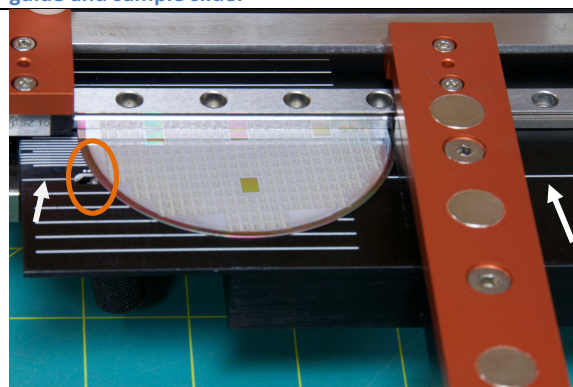

Figure 11. Sample positioned for cleaving.
11. Position the sample for scribing by pushing the sample with the slides such that the area of interest is touching the diamond scribe tip (See Figure 11- region circled in orange).